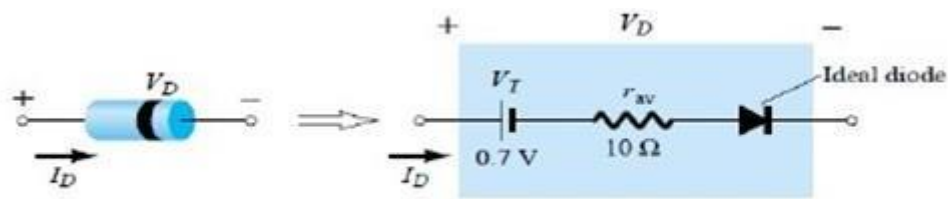

Figure 1.32 Components of the piecewise-linear equivalent circuit.
- Since a silicon semiconductor, diode does not reach the conduction state until  $V_D$  reaches 0.7 V with a forward bias, a battery  $V_T$  opposing the conduction direction must appear in the equivalent circuit as shown in Fig. 1.32.